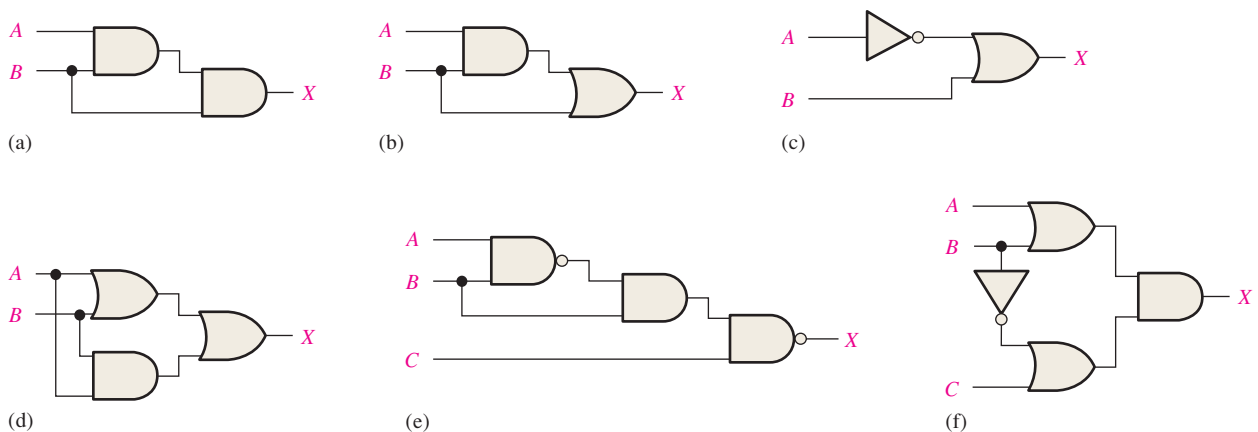

FIGURE 5-55
3. Write the output expression for each circuit as it appears in Figure 5-55.